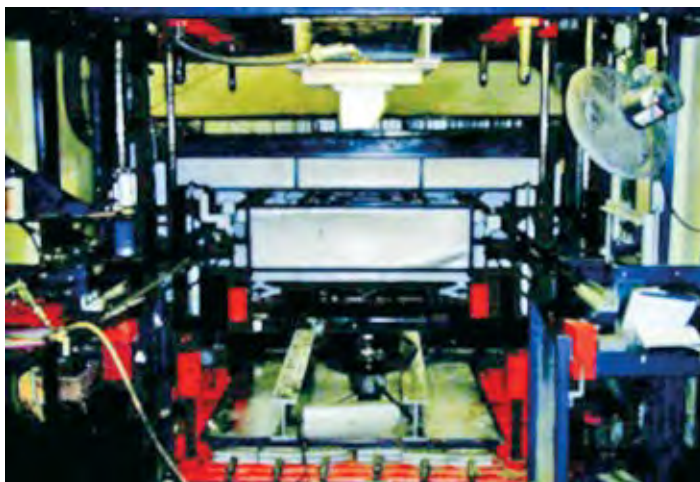
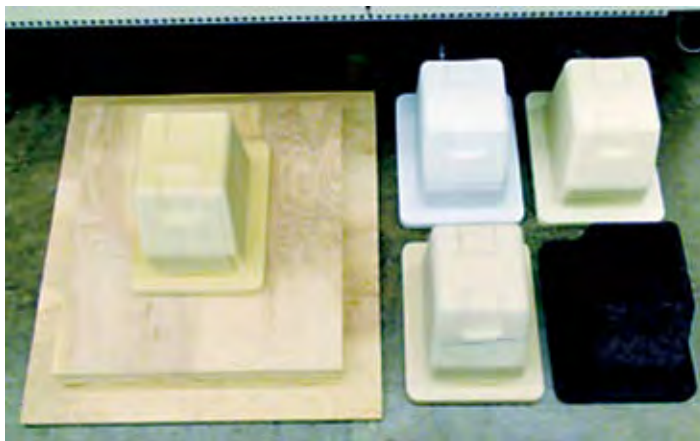

FIGURE 4: FDM tool mounted in the thermoforming machine
FIGURE 5: FDM heavy gauge thermoform tooling
- 7.3. As shown in Figure 4, our test tools were invert mounted on the top frame of the machine to allow for the natural draping of the heated plastic to compliment the deep draw. This helps to minimize chill spots on the pulls by minimizing the time of contact between the sheet and tool, prior to vacuum being pulled. The FDM tool was bolted to a plywood base consisting of 5 layers of 0.75-in. plywood that was glued and screwed together to coordinate with the thermoforming framework. Tooling is shown in Figure 5. This configuration enabled the tool to be extracted from the sheet form using the pneumatic lift of the machine, once the plastic had adequately cooled. This configuration duplicated a production setup, which allowed for repeated processing of the tool |